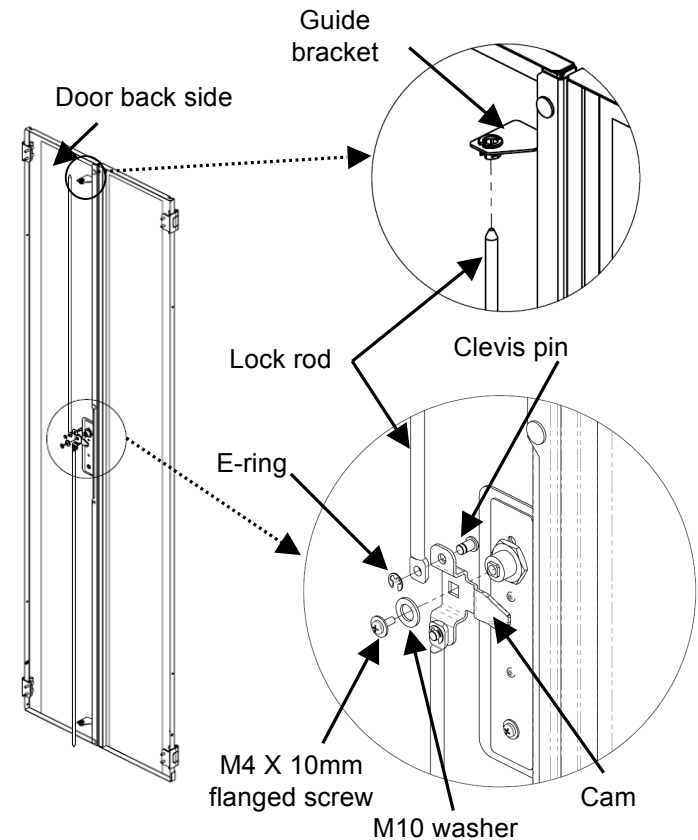

Fig. 3
5. Install the 3 point cam into the Lock Spindle with M4X10mm flanged screw & M10 washer on ELS1000 spindle (Fig. 3).
6. Insert the lock rods through the guides, with the short rod at top and the long rod at bottom of the door (Fig. 3).
7. Insert the cam assembly pins through the short rod (on top) and the long rod (on bottom), then through the other half of the cam assembly (Fig. 3) and lock with e-ring.